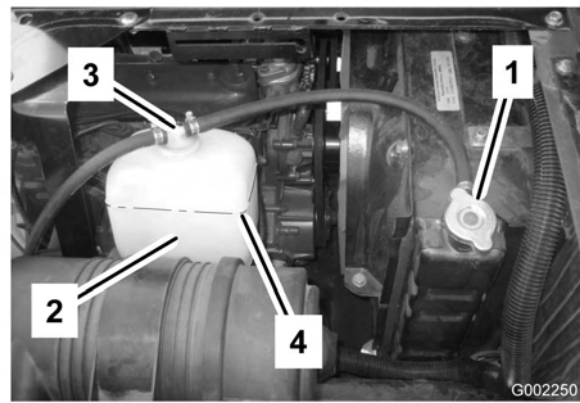

Figure 53
2. When the engine is cool, remove the radiator cap (Figure 53).